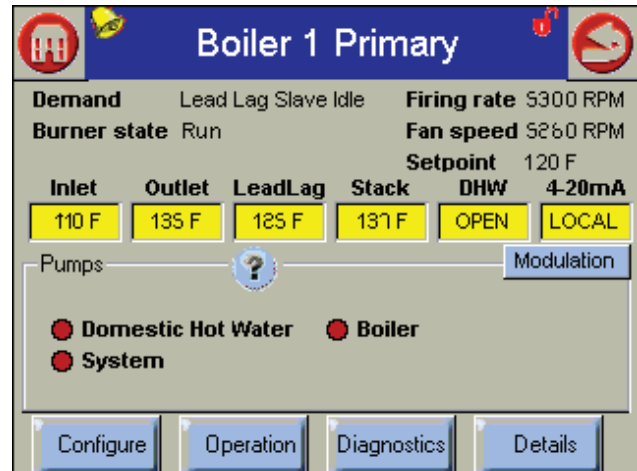

Fig. 54 – Status Summary Screen
2. The system will present the Status Summary screen for that controller. See Fig. 54.